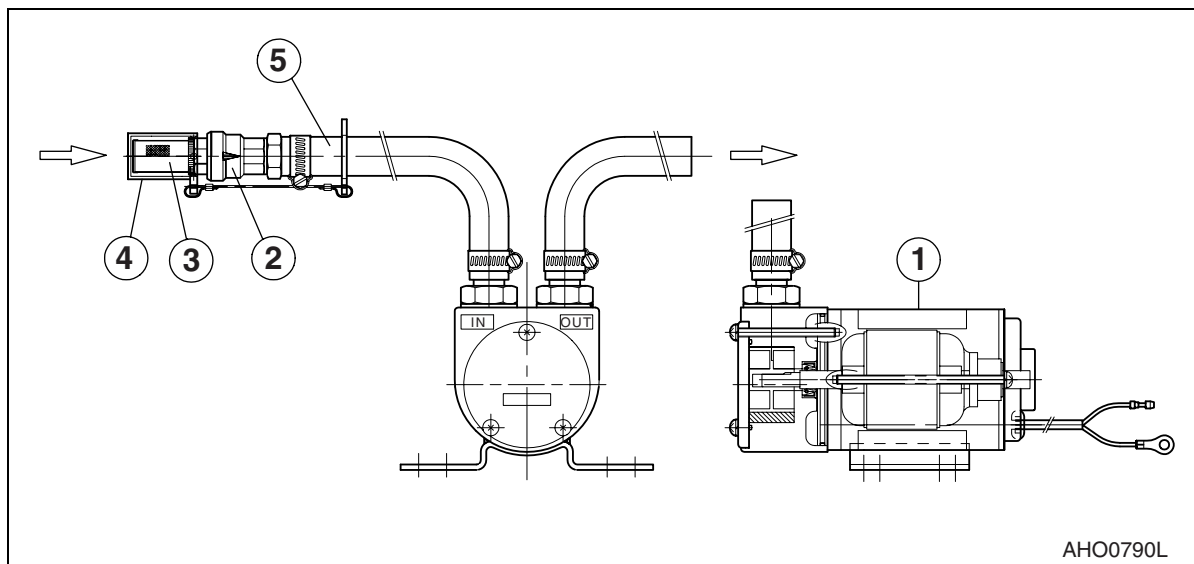

Figure 90
1. Remove strainer cap (4, Figure 90) from inlet hose.
2. Insert inlet hose (5, Figure 90) into refueling tank.